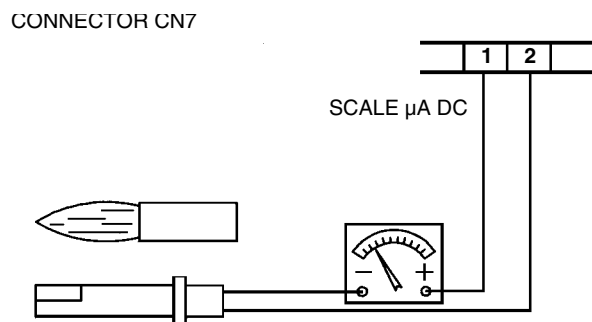

Fig. 27
- Inspect and thoroughly clean the flame detection photoresistor and replace if necessary. In case of doubt, check the detection current after first starting the burner by following the procedure shown on Fig. 27;